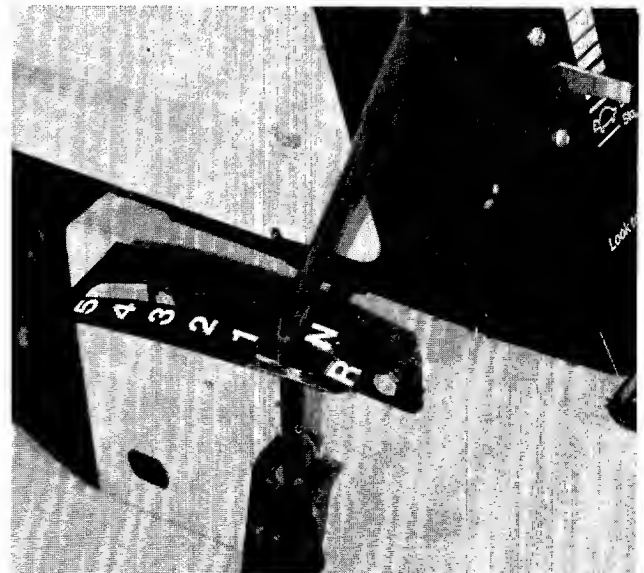

FIGURE 16.
The transaxle has five forward gears, neutral and reverse. You do not shift through the gears on the transaxle as you would in an automobile. Pre-select the gear appropriate for the job you are doing. (See figure 16.)
3. Place the gear shift lever in the "NEUTRAL" (N) position. (See figure 16.)
6. Select one of five forward gears. (See figure 16.)